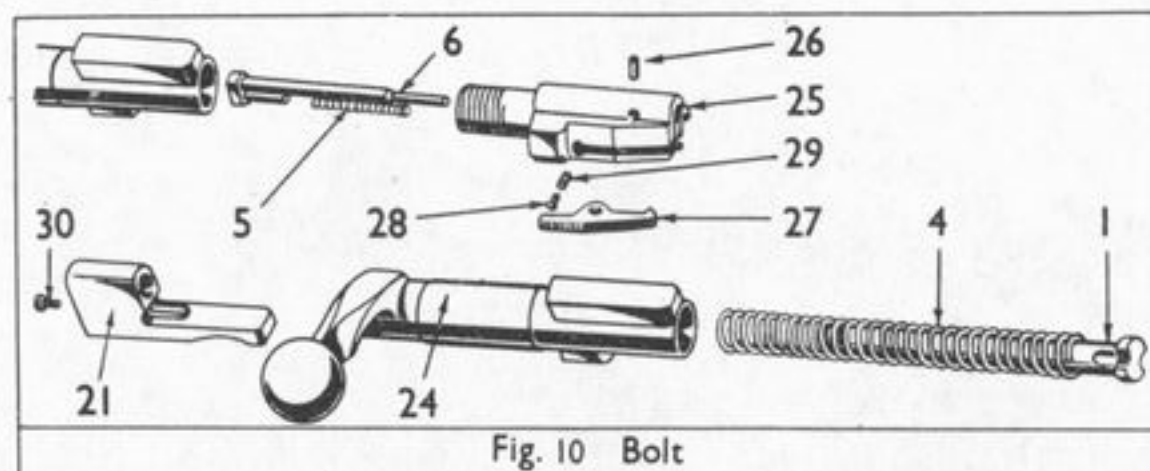

Fig. 10 Bolt
36. To Strip Bolt (Fig.10). - Unscrew the bolt head (25), and pull out the firing pin (6) and firing pin spring (5). With a suitable punch, drive out the extractor pin (26); remove extractor (27), extractor plunger (28), and extractor spring (29). Remove the striker screw (30) from the cocking piece (21), and unscrew the striker (1) with the "Tools Striker No.2" as used with the No.4 rifle. Remove striker and striker spring (4) from the bolt (24).